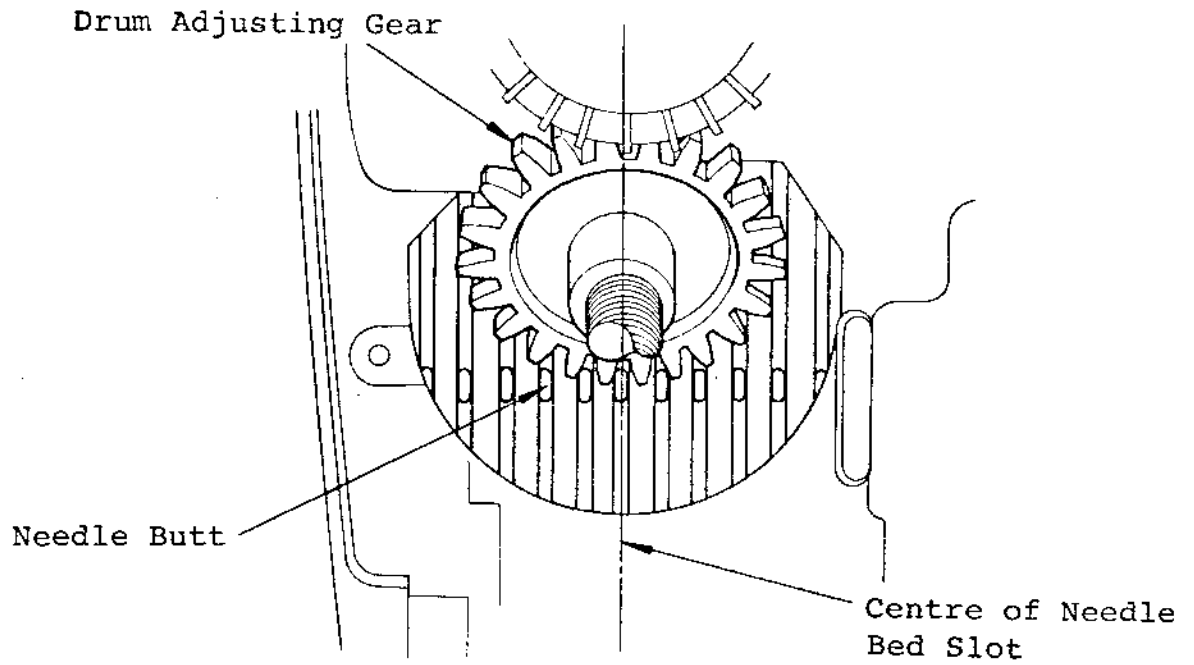

Fig. 31
5. Adjust the position of the Sub Drum so as the Sub Drum Axis and the Drum Adjusting Gear are aligned on the vertical line as indicated in Fig. 31, below.